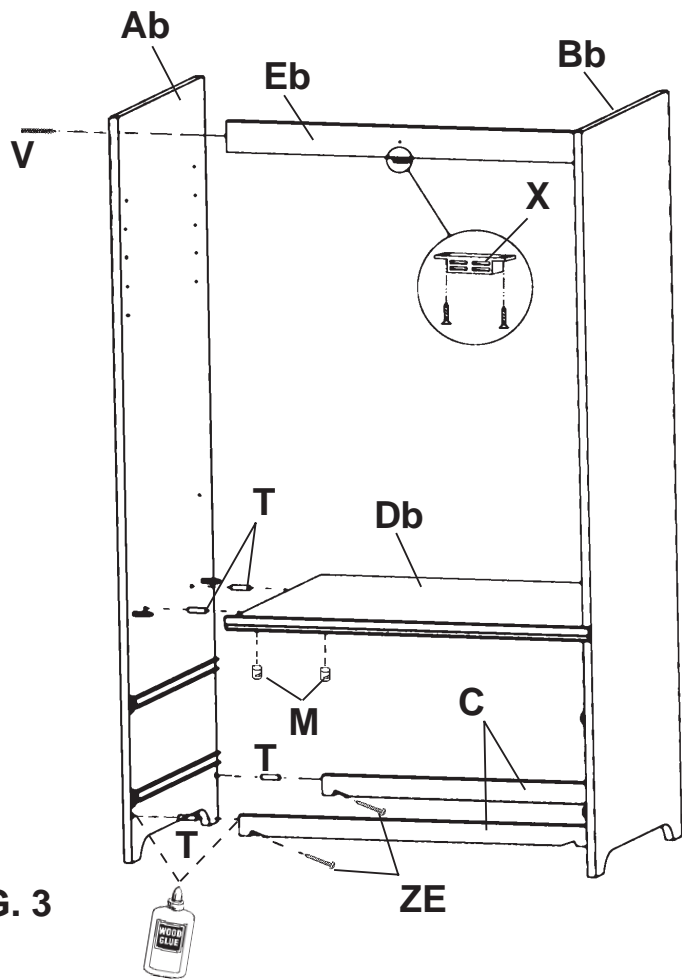

FIG. 3
- 3) Glue two Dowels (T) for Sleepers (C) and two for Center Shelf (Db) into the Left Side (Ab). Attach the Left Side (Ab) to the Sleepers (C), Center Shelf (Db), and Crown (Eb). The sleepers use dowels and #8x1³/₄" Pan Head Screws (ZE); the center shelf uses dowels and Cam Housings (M); and the crown uses a #8x1⁵/₈" Black Screw (V). See FIGURE 3.